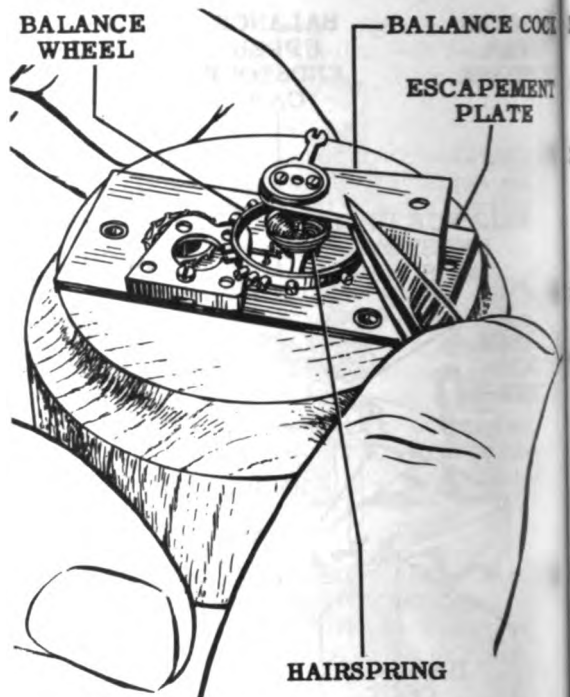

Figure 85
33. Since the hairspring stud fits securely into the balance cock, it is recommended that the stud be fastened into the balance cock before it is mounted on the escapement plate. Turn the balance cock and the balance wheel upside down, insert the stud and tighten the stud screw. Pick up the balance cock with the attached balance wheel as shown in Fig. 85, and place them in position on the escapement plate. Slip the hairspring in between the regulator pins. Mount the balance cock with the balance cock screw.